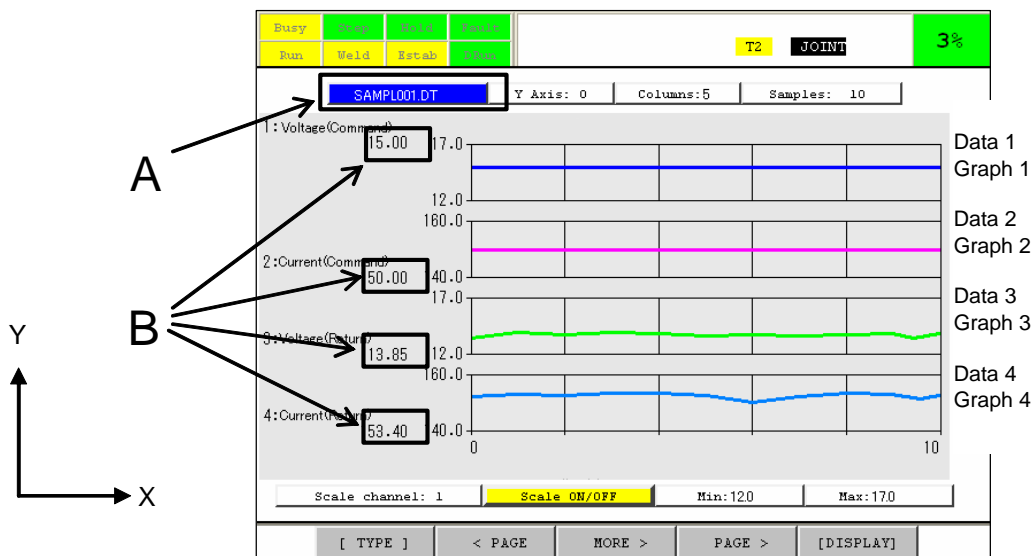

Fig. 21.4 Data monitor chart screen
- 6 The file name of the monitor report is displayed on Fig 21.4 A. When the cursor is moved to A and [ENTER] key is pressed, file select screen will be displayed and the user can select the ".DT" file in other memory.
- 7 In Fig 21.4 B, newer value of the Y direction of each graph is displayed.